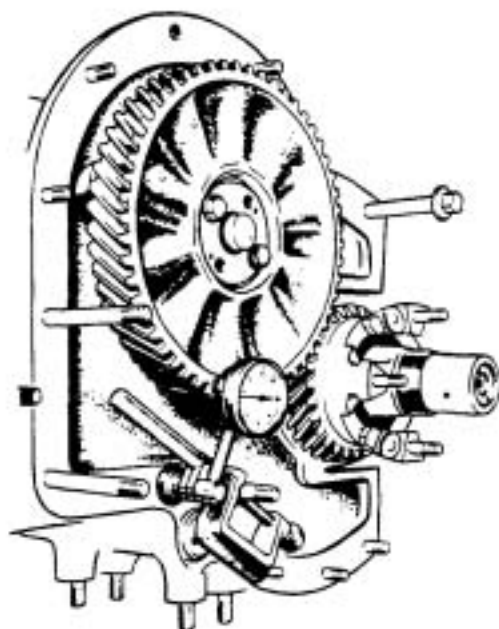

FIG. 1. CHECKING RUN-OUT OF
- (i) After dismantling the spring drive unit, including the removal of the crankshaft pinion assembly, temporarily fit the new gear to the camshaft. Prior to checking the backlash, place the registering member of a dial indicator on the front face of the camshaft gear (just beneath the teeth) as shown in Fig.1 and check the gear for run-out which should NOT exceed .002" (.05 m/m). This operation is carried out without the crankshaft pinion in position.